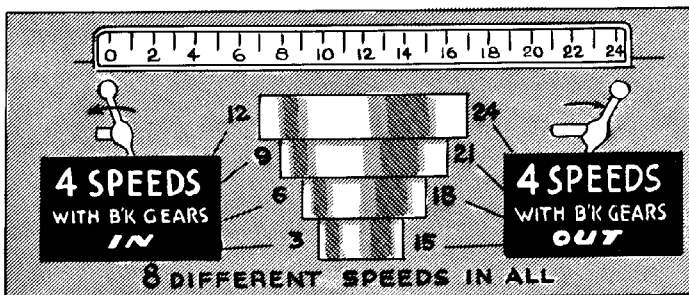

FIG. 74
1. Divide the maximum stroke length given on the index plate by the number of different speeds available on the shaper (Fig. 74).